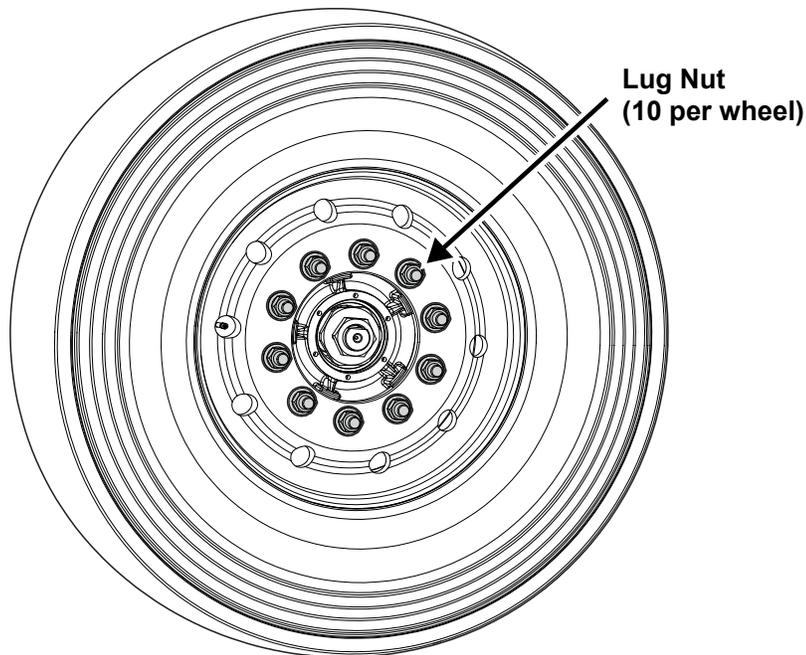

Figure 1
3. Tighten all lug nuts to 475 Lbs. Ft of torque (*see Figure 1*).